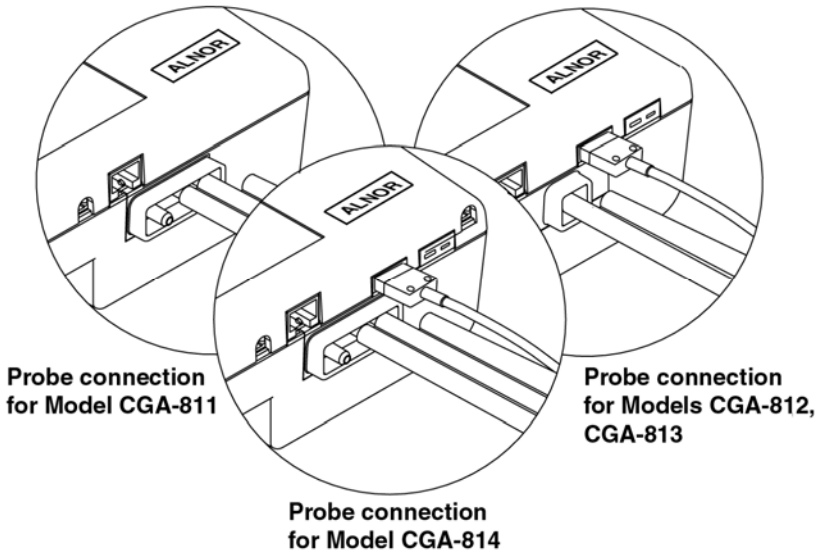

Figure 4. Sampling Probe Connections
*For 11–15 see Figure 4 for Model details.